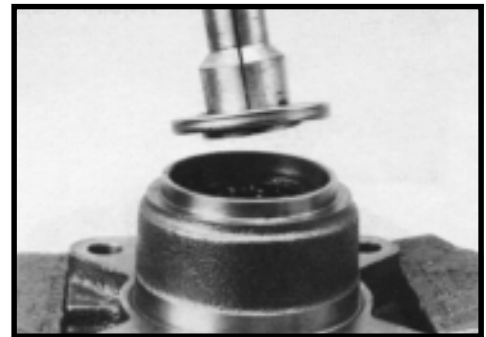

Figure 25
- 19. Remove housing (18) from vise, invert it and remove and discard seal (20). A blind hole bearing or seal puller is required. SEE FIGURE 25.